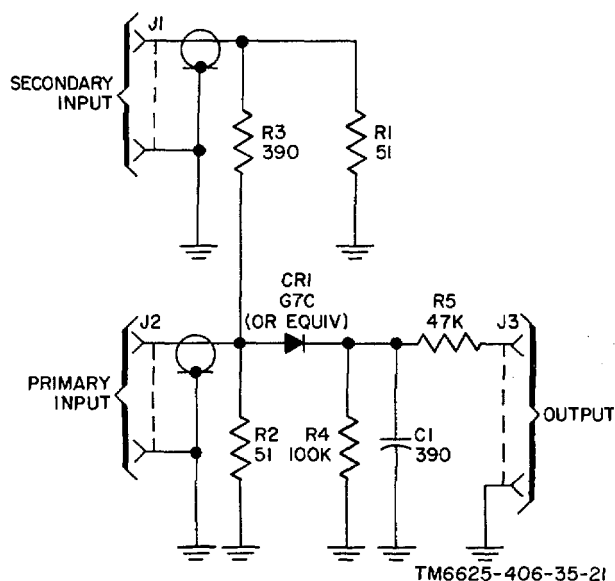

Figure 17. Calibrated detector, schematic diagram.
- (1) Set the horizontal deflection controls of the oscilloscope for an external signal input. Connect the SWEEP OUTPUT terminal of the signal generator to the horizontal input terminal of the oscilloscope, and the associated GND terminal of the signal generator to the horizontal ground terminal of the oscilloscope.
- (2) Connect the 50Ω SWEEPING OSCILLATOR OUTPUT connector of the signal generator to the primary input connector of the calibrated detector (fig. 17). Connect the output of the continuous wave (cw) signal generator to the secondary input of the calibrated detector. Connect the output terminals of the calibrated detector to the vertical input terminals of the oscilloscope.